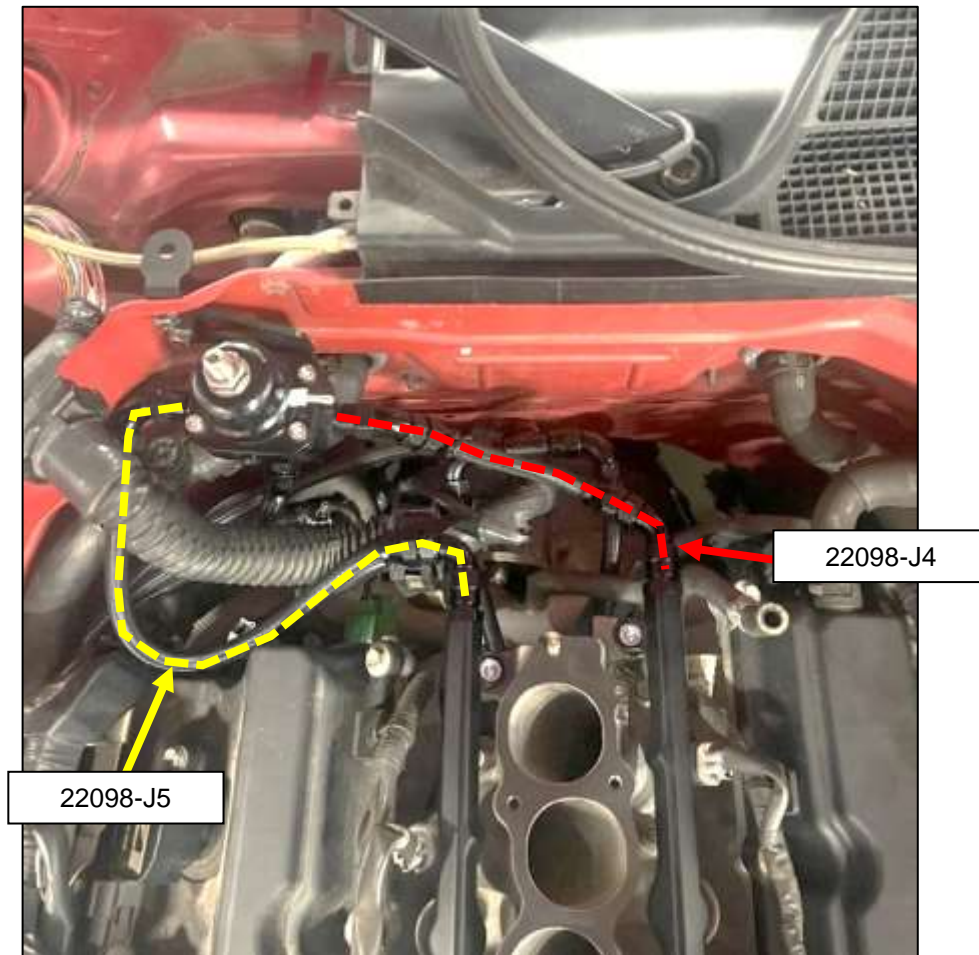

Figure 48
18. Install the 120° fitting on the **22098-J4** line onto the rear of the Driver Side Fuel Rail. Install the 135° fitting onto the Driver Side of the FPR. *Figure 48.*
19. Install the 90° fitting on the passenger **22098-J5** line onto the rear of the Passenger Side Fuel Rail. Install the 90° fitting onto the Passenger Side of the FPR. *Figure 48.*